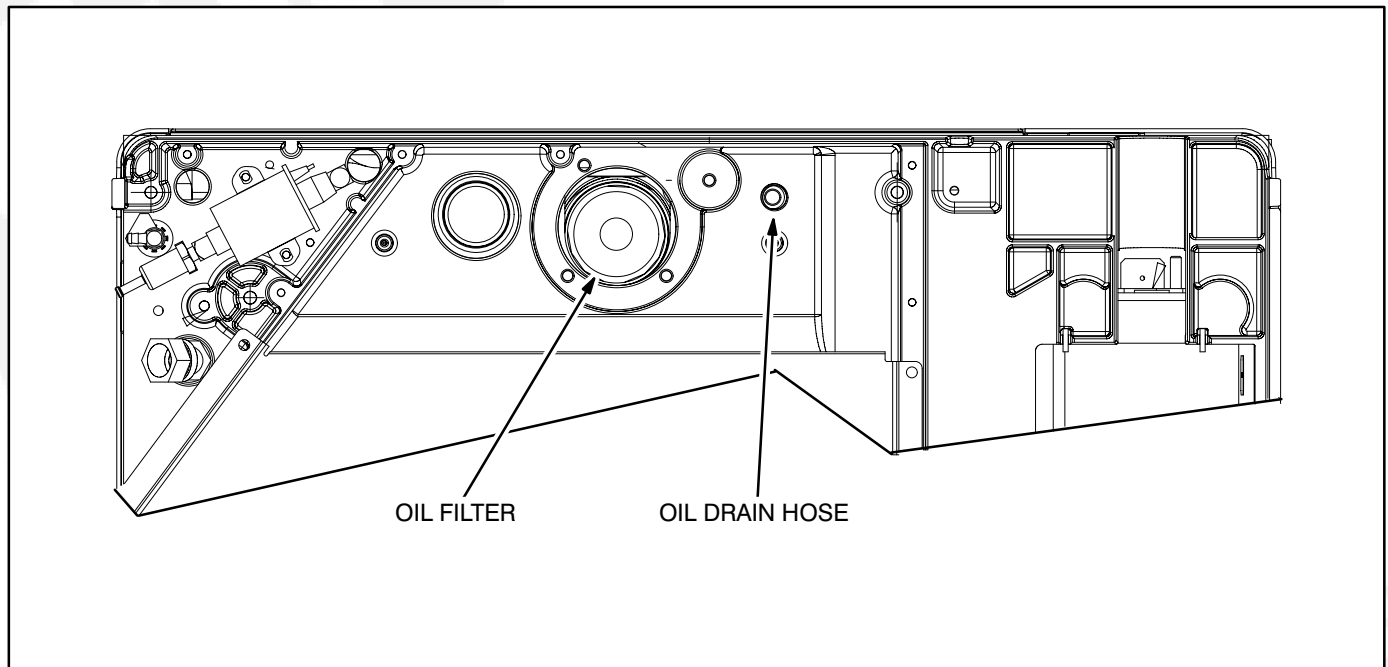

FIGURE 12. OIL FILTER AND DRAIN HOSE—VIEW FROM BELOW OF FRONT EDGE OF GENSET
1. Place a pan underneath the oil drain hose and filter (Figure 12). Run and then stop the engine when it is warm.